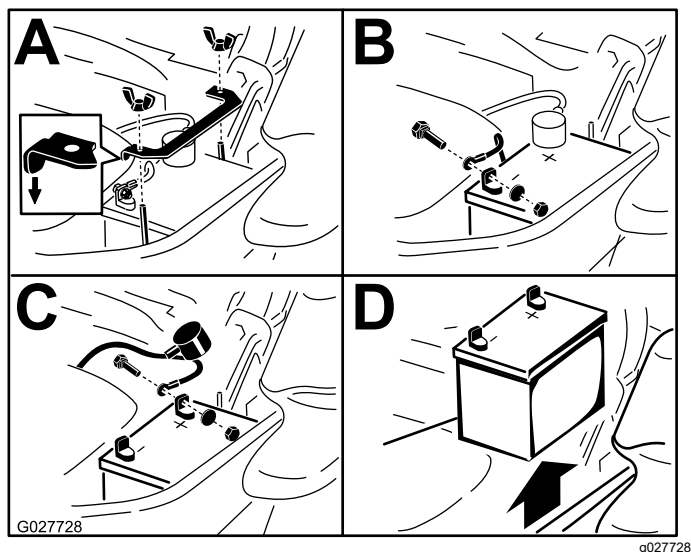

Figure 58
3. Remove the battery as shown in Figure 58.